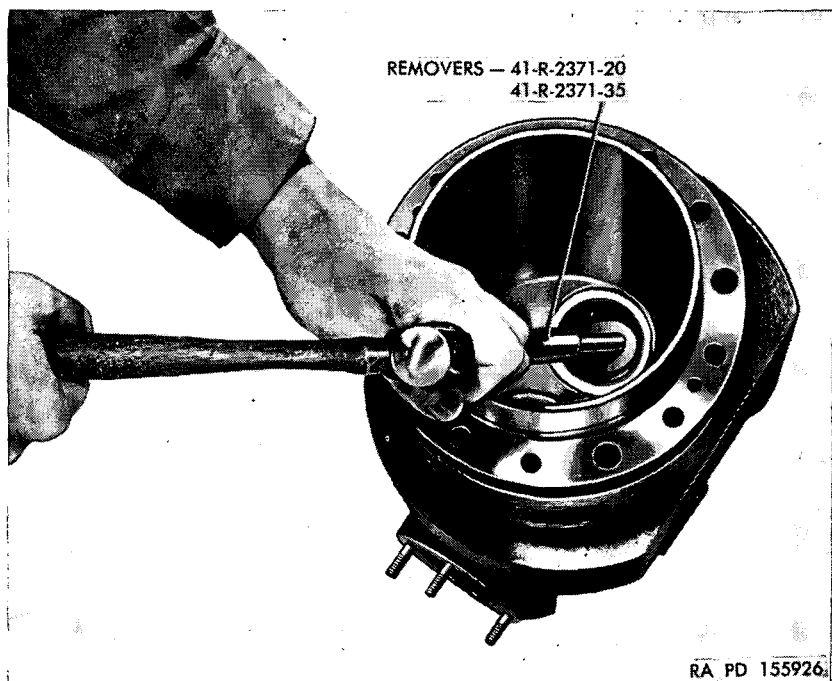

Figure 56. Removing valve guide.
- (5) *Ring ridge.* Check for ring ridge by carefully running a finger over the cylinder wall. If a ridge can be felt at the end of ring travel, either at the top or bottom of cylinder, it should be rehoned.
- (6) *Valve guides.* Inspect valve guides for looseness, cracks, galling, erosion, or scuffing. Remove any carbon deposit in the valve guide bores with crocus cloth and dry-cleaning solvent or volatile mineral spirits. Check bores to the limits specified in repair and rebuild standards (par. 151). Replace if necessary (figs. 56 and 57) (c below).
- (7) *Valve (seat) inserts.*
- (1) *Cylinder barrel fins*. Carefully straighten bent fins on the barrel as close as possible to the original spacing. These fins are soft and should not be destroyed. Replace cylinder if loss of total fin area is more than 1 percent.
- (2) *Cylinder head fins*. Replace cylinders with broken head fins if defect is more than half the fin depth or more than two inches long. A cylinder can be used if it has not more than three acceptable defects. No two defects can be on adjacent fins. Defective areas shall be smoothly blended to eliminate sharp corners. The depth of any blended fin must not be less than 50 percent of its original depth.
- (3) *Replace valve guides*.
- (a) To remove a valve guide, insert valve guide remover 41-R-2371-35 (for intake valve guides) or valve guide remover 41-R-2371-20 (for exhaust valve guides) into the guide (fig. 56). Support the cylinder so that fins will not be damaged. Drive the guide out of the cylinder head.